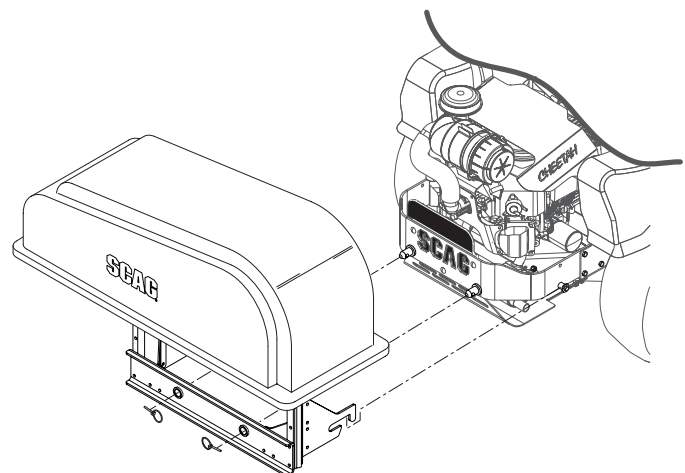

**Figure 2-12. STT / STTII Hopper Mounting Hardware Install**
10. Install the mounting pins and spacers on to the rear of the STT or STTII machine as shown. Secure using the hardware provided. See Figure 2-12.